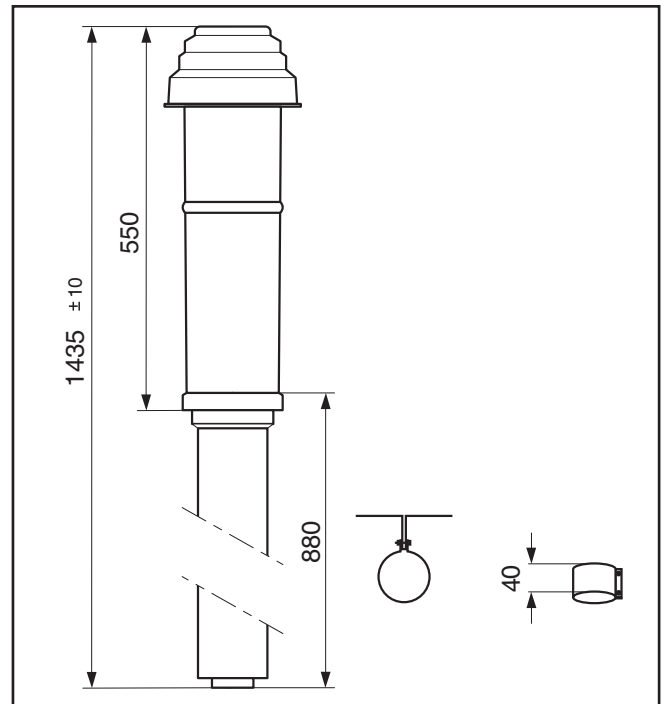

Fig. 3.3 Art. No. 303900
- 60/100 Vertical air/flue duct and terminal, see fig 3.3.